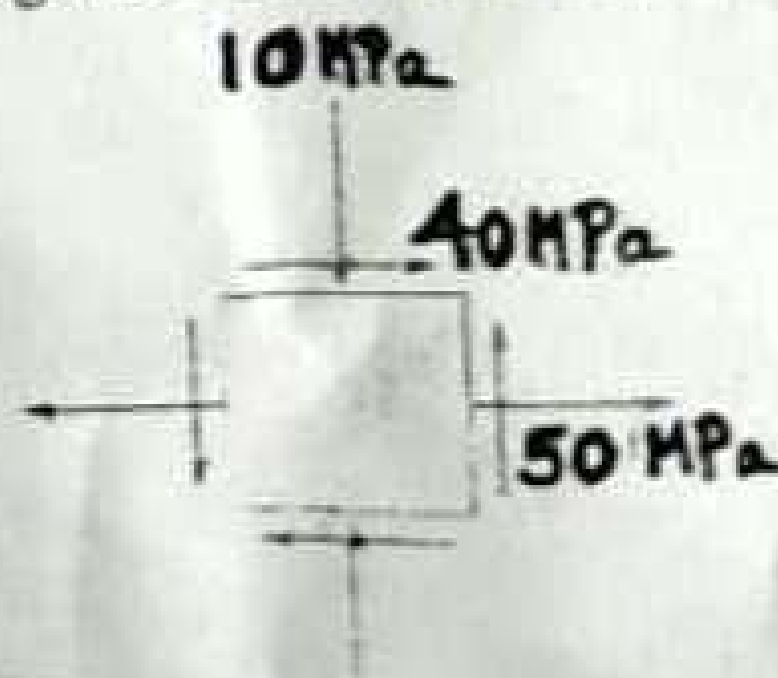

Figure 2
5. For the state of plane stress shown in figure 2. (a) construct Mohr's circle, (b) determine the principal stresses, (c) determine the maximum shearing stress and the corresponding normal stress.